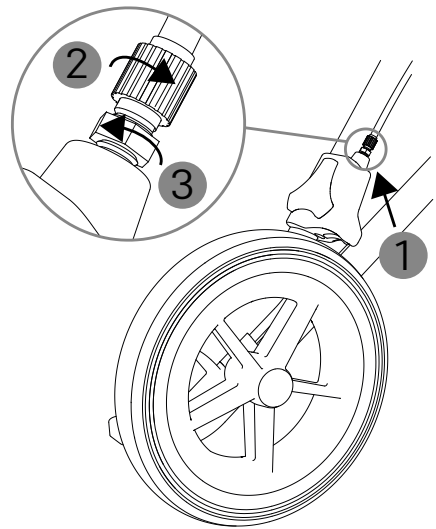

Fig. 7
1. You will find the adjustment screws for the Bowden cables on the brakes of the rear wheels (1, Fig. 7).
2. By unscrewing (counterclockwise) you will increase the tension and reduce the distance that the brake lever travels when applied (2, Fig. 7).
3. The screw is locked using a nut. You will have to tighten the lock nut in a clockwise direction (3, Fig. 7) after adjustment to prevent the brake cables from coming loose on their own.